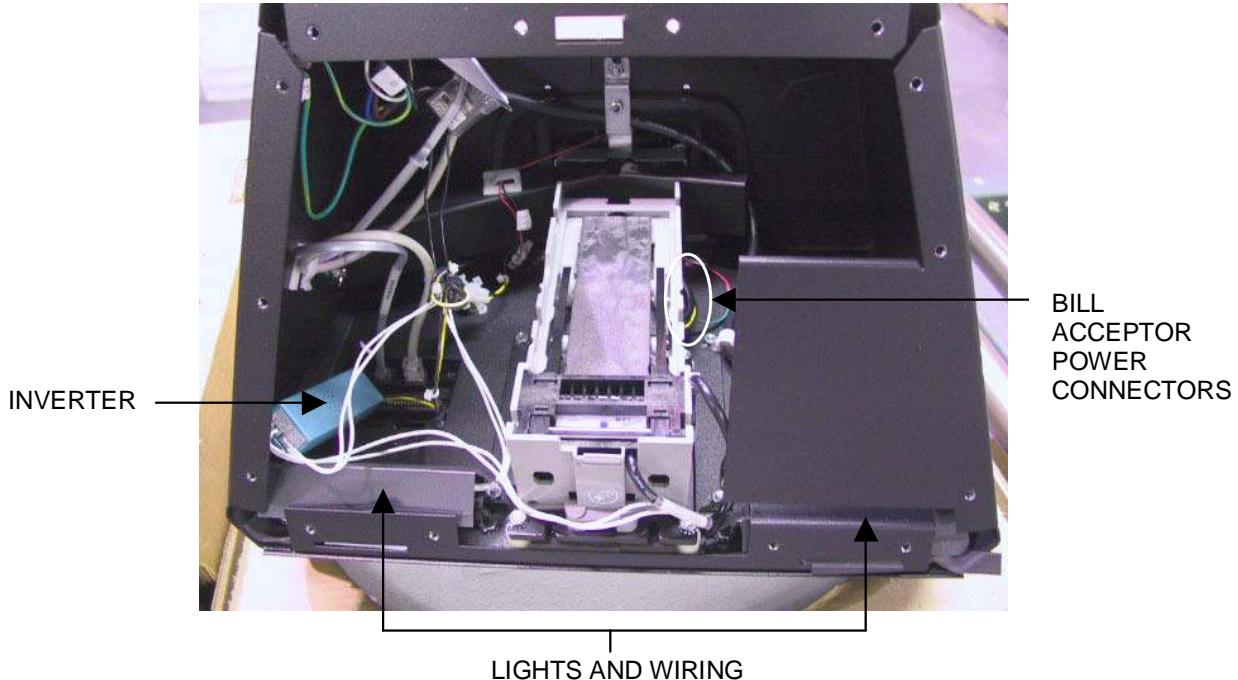

FIGURE 3 - ELITE EDGE WITH BASE REMOVED
10. Remove the 2 wire connectors from the bill acceptor. See Figure 3.